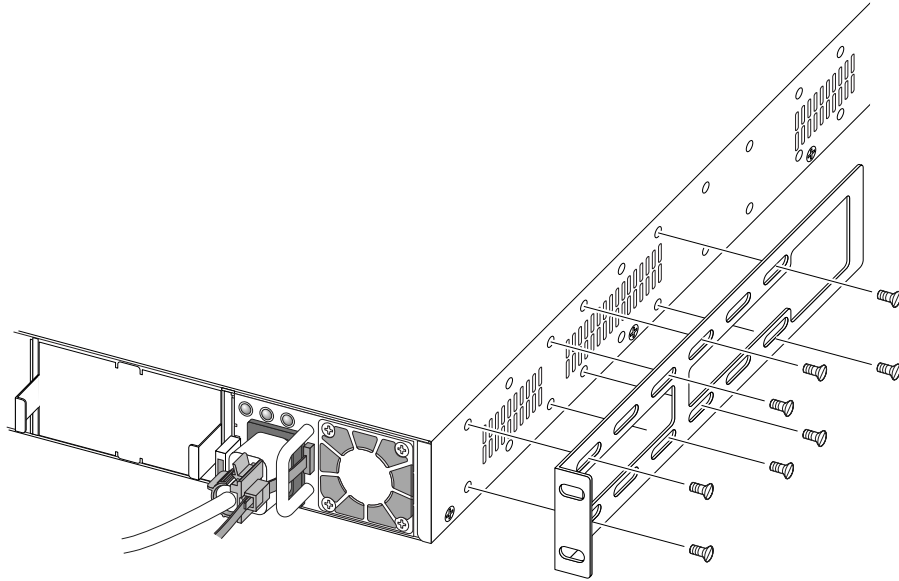

Figure 313: Attaching the Mounting Bracket to the EPS-C2 Chassis
- a. Place a mounting bracket over the mounting holes on one side of the EPS-C2 (see Figure 313).